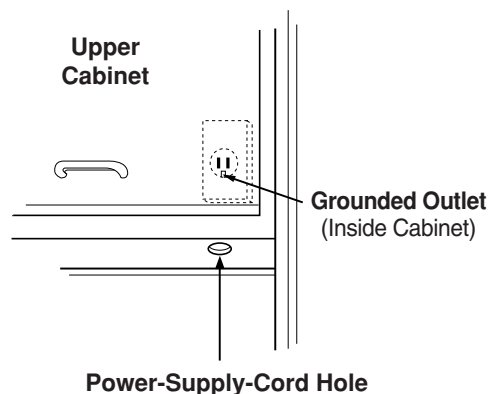

Figure 5
1. Locate the grounded electric outlet for this oven in the cabinet above the oven, as shown in Figure 5.
2. You will cut the power-supply-cord hole (shown in Figure 5) later when you prepare the wall and upper cabinet in Step 4.